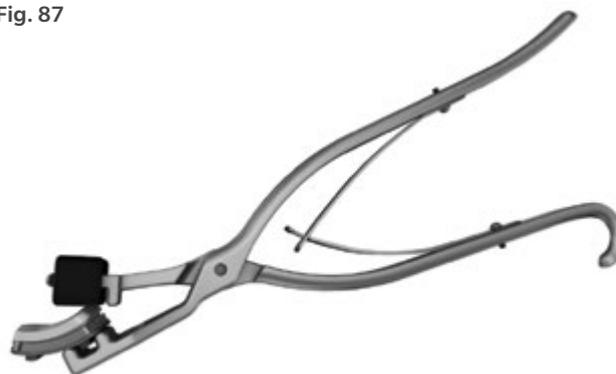

Fig. 88
- Place Tibial assembly into Tibial Poly Assembly Tool so that one rail fits between the parallel rods and the other rail is outside of the tool (Fig. 88).